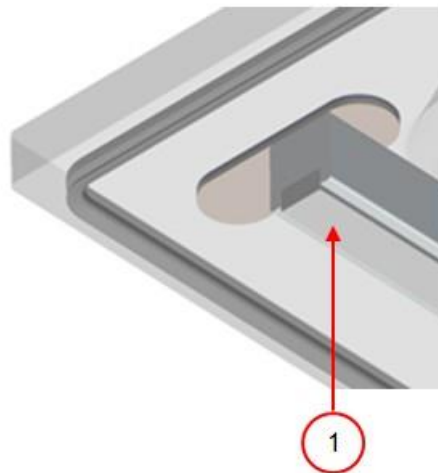

Figure 15: Replacing the Silicone Rubber of the Silicone Holders
1. Pull the old silicone rubber from the holder, see Figure 15: Replacing the Silicone Rubber of the Silicone Holders on page 30.